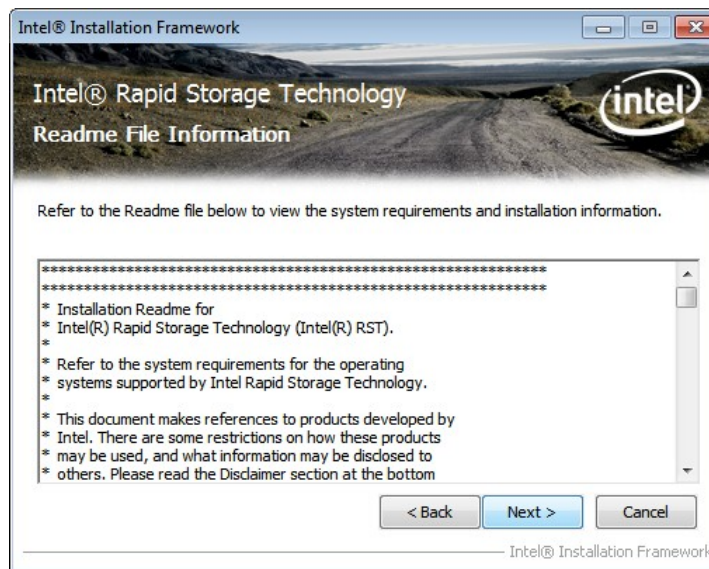

Figure 6-24: SATA RAID Driver Read Me File
Step 9: The **Read Me** file in **Figure 6-24** appears.